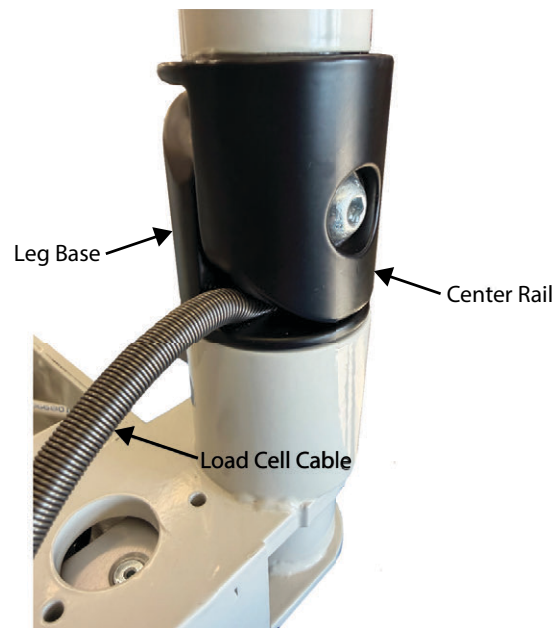

Figure 6. Reconnected Center Rail
5. Use the hex wrench and screws to reconnect the center rail with the load cell cable placed between the center rail and leg base (see Figure 6).